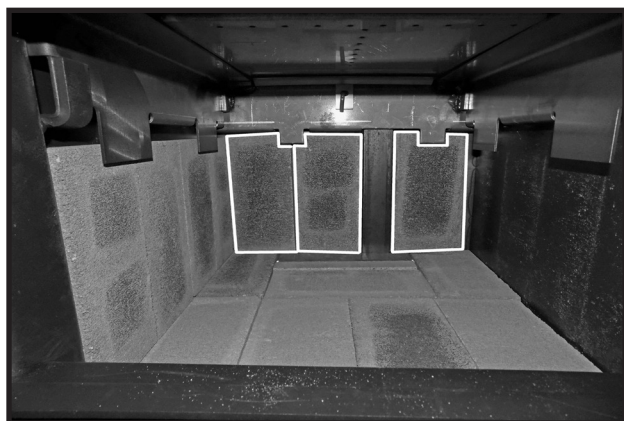

Figure 28: Rear wall bricks in place.
2. Place three bricks against the rear wall. Position the bricks behind the tabs and slide them in towards the center of the stove to eliminate any gaps that may appear (Figure 28).